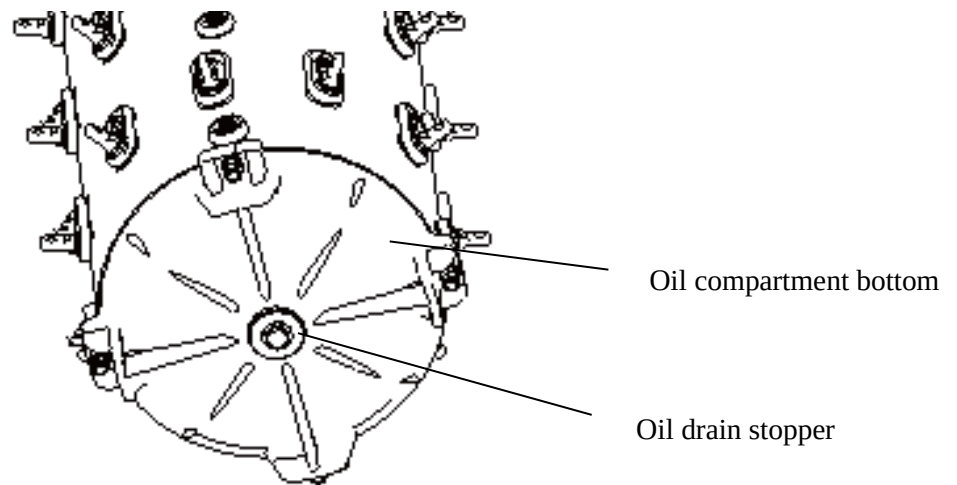

Figure 24 Unscrew the oil drain stopper
1) Unscrew the oil drain stopper at the bottom of the oil compartment (socket head screw, 24mm wrench) (Figure 24).